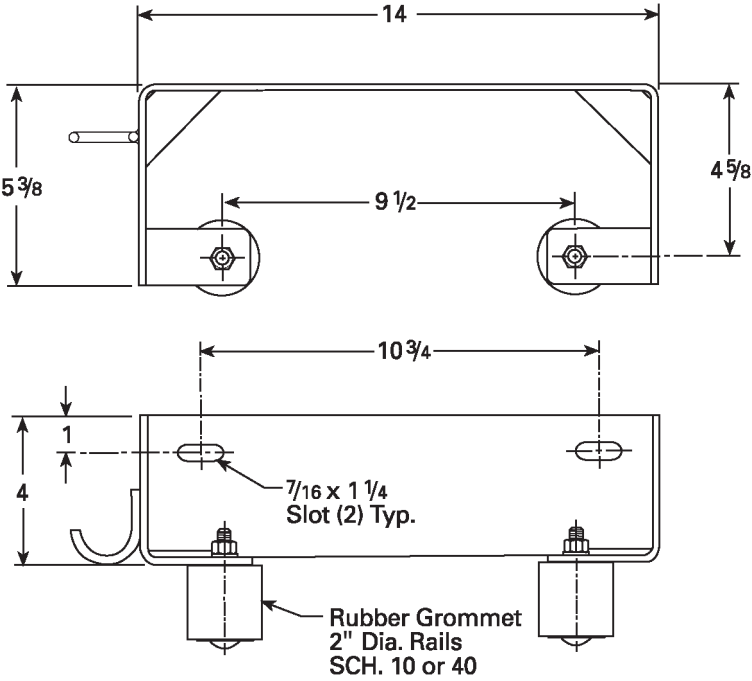

Fig. 4
2. Bolt top rail support plates (Fig. 4) to hatch frame. The plate has slots so the two plates in a duplex system can be adjusted to obtain required center-to-center distance between pumps.